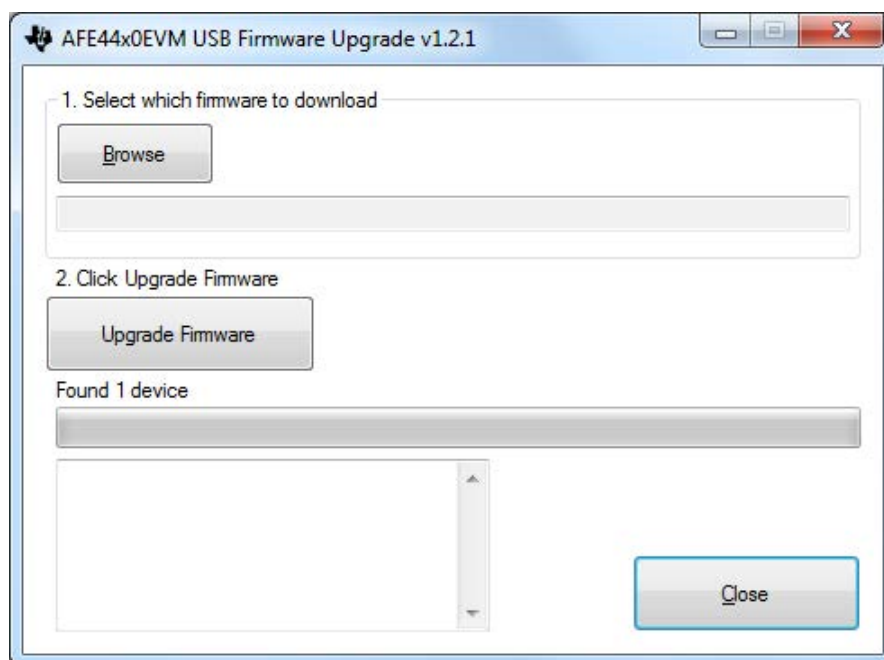

Figure 49. PC Application Firmware Upgrade – 2
- The firmware upgrade application detects the connected EVM (Figure 49).